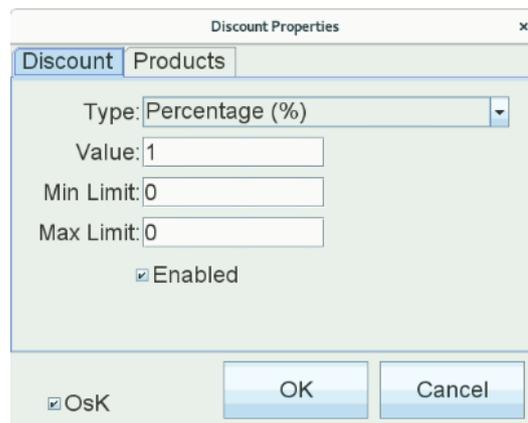

Figure 110: Adding Discounts for Multiple Products
4. Select Yes in the Apply discount to multiple product confirmation window. The alternative Discount Properties window is displayed (Figure 110).